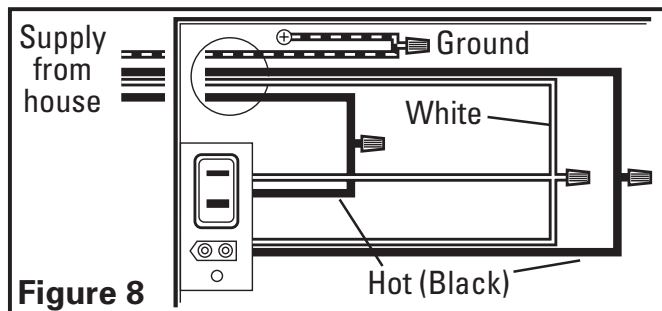

Figure 8
- 1a. From where you have access to inside the fan's junction box, connect the one White wire from the house to both the White wire from the fan's light receptacle and the White wire from the fan's exhaust receptacle. Connect the first Black wire from the wall switch to the Black wire from the fan's light receptacle. Connect the second Black wire from the house to the fan's exhaust receptacle. Connect the ground wire from the house to the Green wire from the fan's grounding screw (**Figure 8**). Use approved methods for all connections.